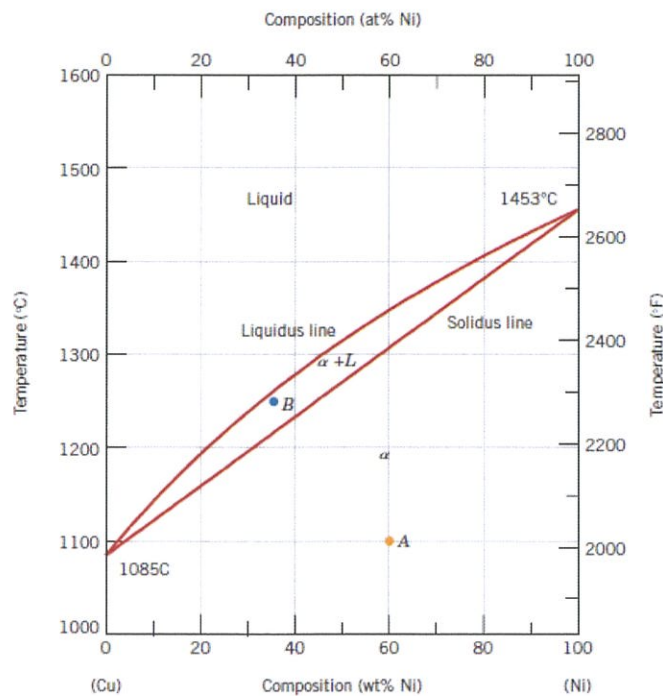

Figure 2(c)/ Rajah 2(c)
- (c) A binary phase diagram is a graphical representation that shows the phases (solid, liquid, gas) present in a two-component system at equilibrium, as a function of temperature and composition, under constant pressure. Figure 2(c) illustrates the copper-nickel phase diagram.